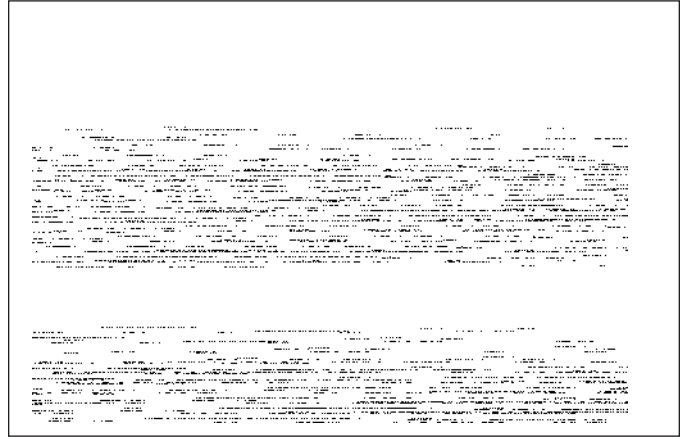

Figure 8. Piping arrangement
- A. Packaged water boilers are equipped with a water circulating pump, mounted to return the water into the boiler. For some installations, the pump should be on the supply main. See figure 8.
- A. DIAPHRAGM-TYPE COMPRESSION TANKS are used to control system pressure in an AIR ELIMINATING SYSTEM: an automatic air vent is used to REMOVE air from the system water. See figure 8. If system pressure needs further control, add an additional tank or install a larger capacity tank. Locate the tank near the boiler, as illustrated. An automatic air vent should be installed in the top of the boiler or air purger. See figure 8.